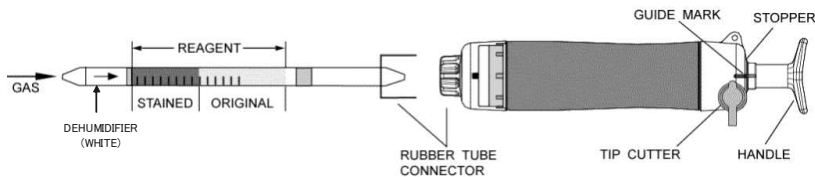

Fig.1
- ① Break both ends of the detector tube.
- ② Insert the detector tube into the aspirating pump securely as shown in Fig.1 (Arrow mark shall point to the pump.)
- ③ Align the guide marks on the shaft and stopper of the aspirating pump.
- ④ Pull the pump handle at a full stroke until it locks and wait for 1.5 minutes or until the completion of sampling is confirmed with the flow indicator of the pump (See descriptions about the flow indicator in the instruction manual of the pump).
- ⑤ On completion of sampling, read the scale at the maximum point of the stained layer.